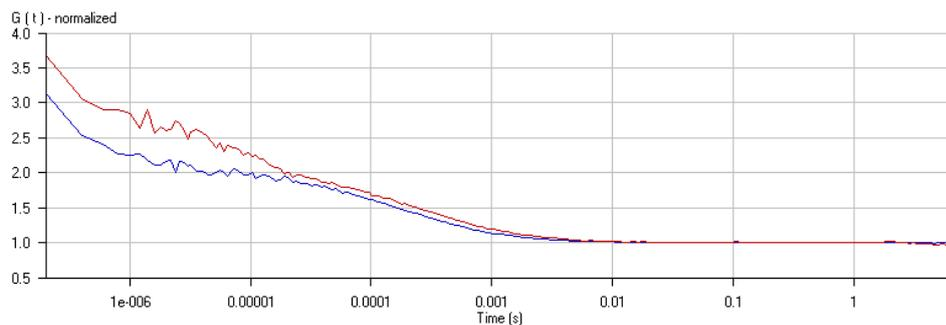

Fig. 4-115 The Correlation Curve window in normalized display
- Selection of **Normalize** will normalize the curves to 2 in the following way (see Fig. 4-115):